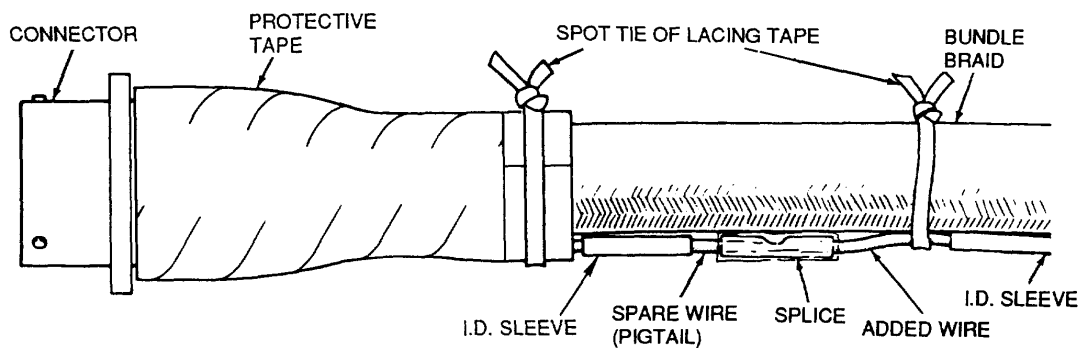

Figure 11. Adding Unshielded Wire
18. **Adding Unshielded Wires.** When it becomes necessary to add wires to the harness, route added wires parallel and external to the existing harness. Secure added wires to the harness using lacing tape. The listed procedures should be followed (Figure 11):